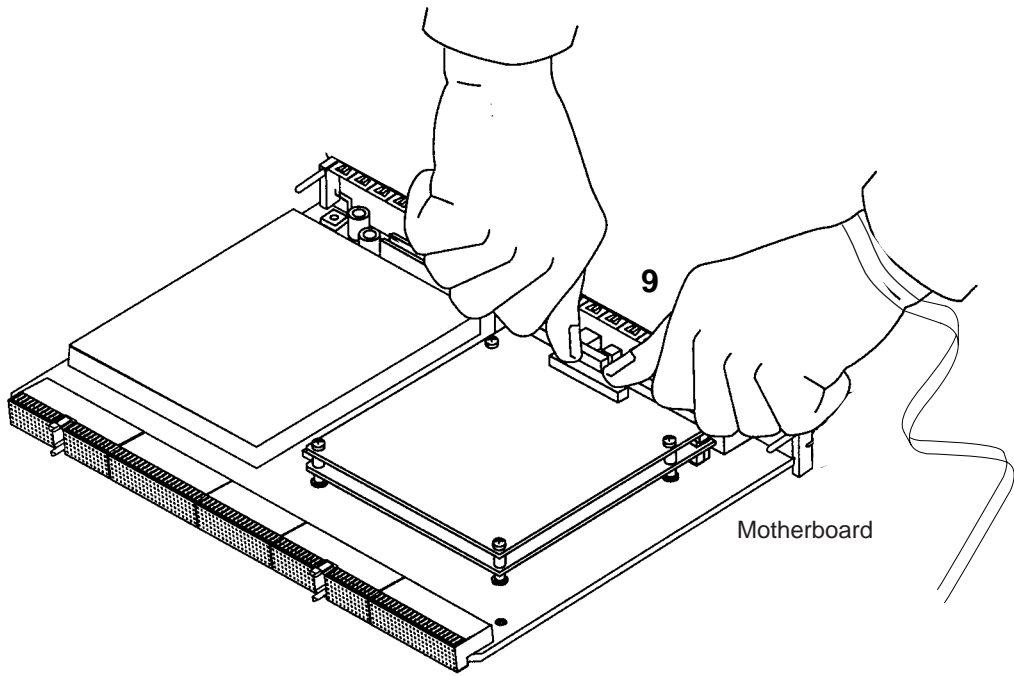

FIGURE A-5 Seating the Second Memory Board
- 9. Press down firmly on all three memory board connectors until they are firmly seated in the connectors on the board beneath (see FIGURE A-5).**